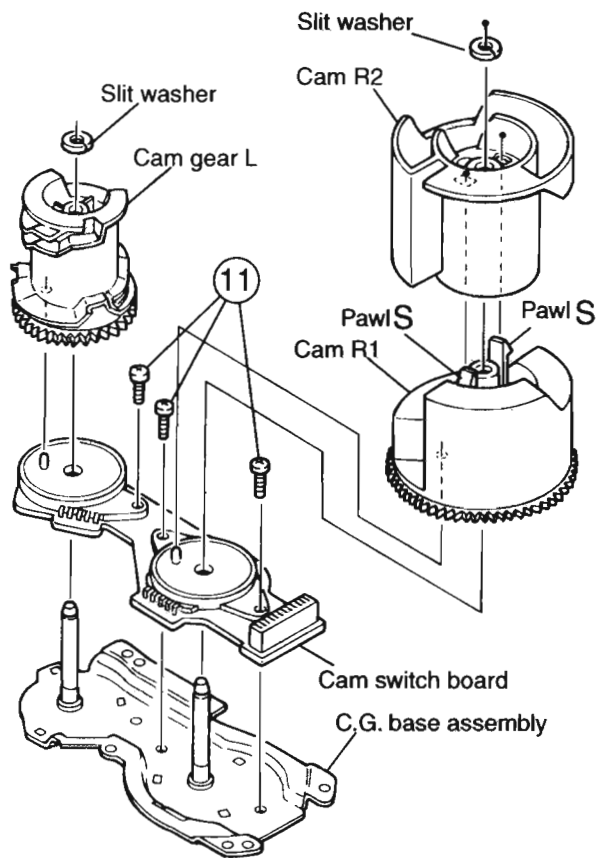

Fig.22
**[Note]** When the chassis assembly is turned over under the conditions wherein the gear bracket and belt have been removed, then the pulley gear as well as the gear, etc. constituting the gear unit can possibly be separated to pieces. In such a case, assemble these parts by referring to the assembly and configuration diagram in Fig. 22.
**■ Removing the cams R1/R2 assembly and cam gear L(See Fig.22)**
**■ Removing the C.G. base assembly (See Fig.22 and 23)**